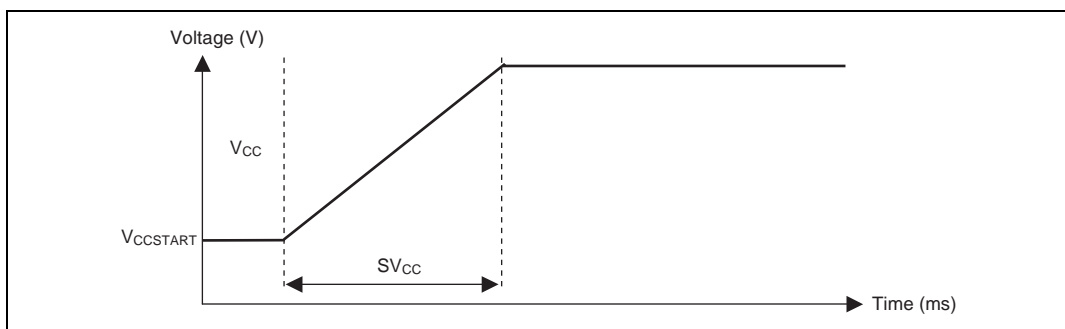

Figure 17.1 Power Supply Voltage Startup Timing
1. This LSI may not start normally when it starts with the condition beyond specification shown in above (Refer to figure 17.1 for power supply voltage startup time.).